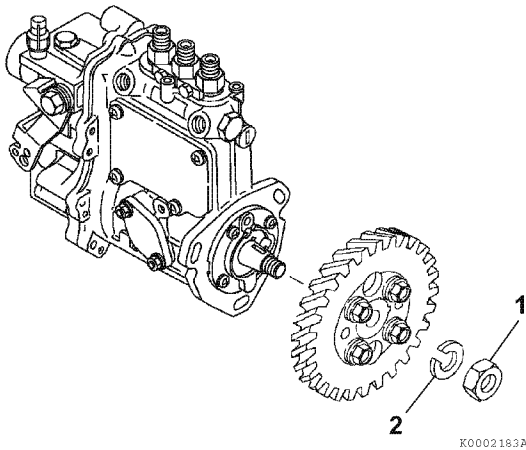

Figure 7-23
5. Reinstall the fuel injection pump drive gear lock washer (**Figure 7-23, (2)**) and nut (**Figure 7-23, (1)**). Do not lubricate threads of the nut or shaft. Hold the crankshaft pulley bolt with a socket wrench and tighten the drive gear nut to the specified torque. See *Special Torque Chart* on page 7-8.